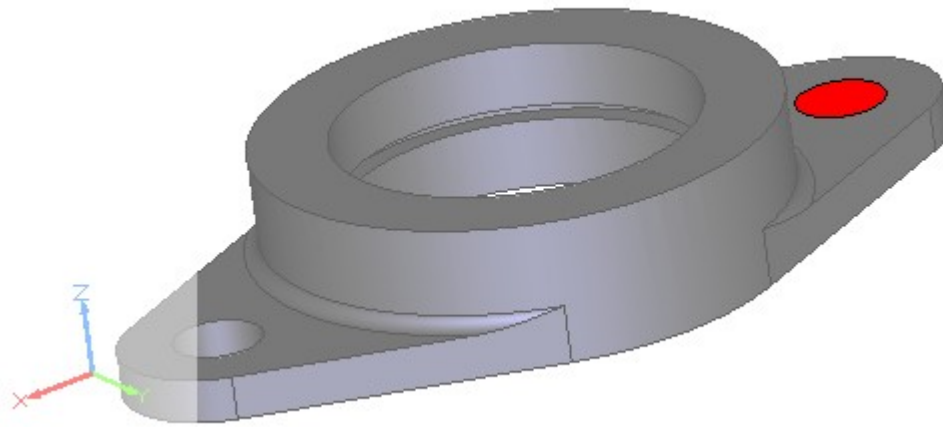

Figure 6. Specular light colour changed to 'lilac' (dark-lighted element)
- Back to the preferences page. Press **Apply** or **OK** buttons to apply the selected colour (see Figure 6).